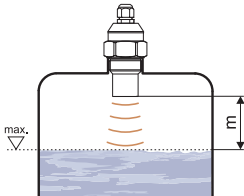

Fig. 2: Level meter dead zone
- d) In compliance with the measurement principle, no signals reflected in the area directly below the level meter (the so-called dead zone) can be evaluated. The dead zone (Fig. 2) determines the minimum distance possible between the level meter and the highest surface level. Medium minimum distance parameters are listed in chapter on „Technical specifications“.